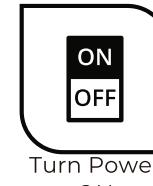

Fig. 7
08. Turn on breaker and light switch. When the sensor detects movement at night within the coverage area, the security light will automatically turn on. Establish the time settings and maximum sensing range using the instructions below (see fig. 7).